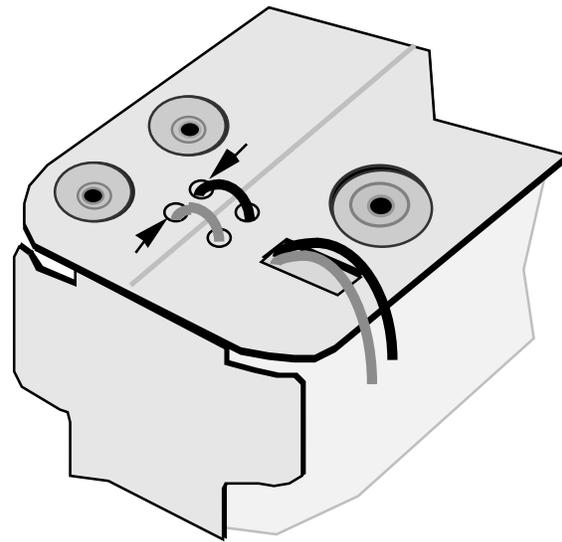

Figure 2
- Orient the 8-cell battery holder as shown in Figure 2. The holder's wire leads exit at the pair of small round holes identified by the arrows.